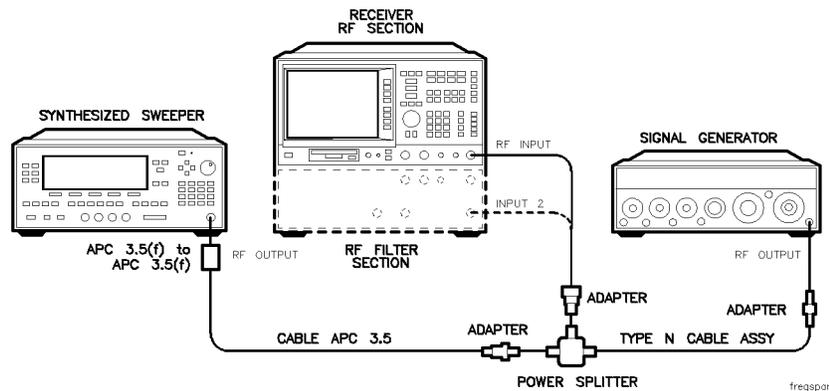

Figure 2-2.
1. Connect the equipment as shown in Figure 2-2. Note that the power splitter is used as a combiner.